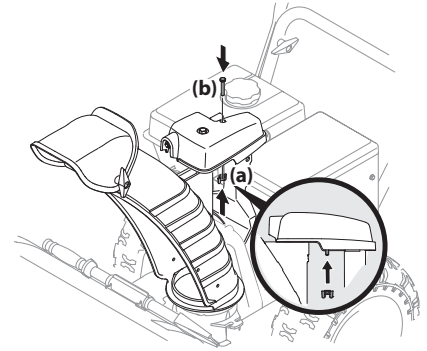

Figure 2-21
3. Finish securing chute control head to chute support bracket with wing nut (a) and hex screw (b) removed in Step 1. See Figure 2-21.